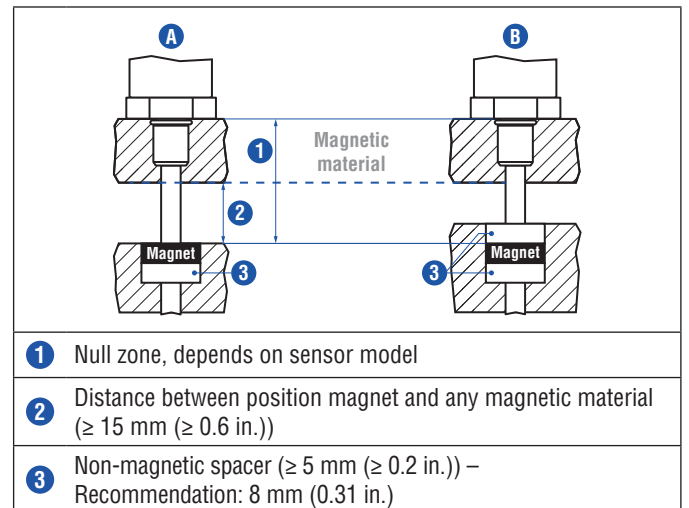

Fig. 15: Installation with magnetic material
- Minimum distance between position magnet and any magnetic material has to be 15 mm (0.6 in.) (Fig. 15).
- If no other option exists and magnetic material is used, observe the specified dimensions (Fig. 15).